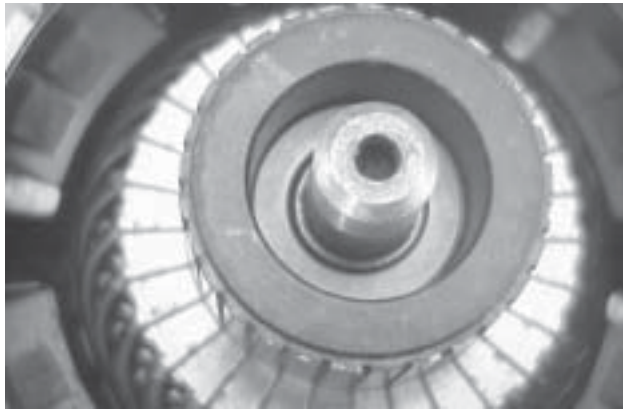

Figure 8-66. Installing Thrust Washer.
9. Install the flat thrust washer onto the commutator end of the armature shaft. See Figure 8-66.